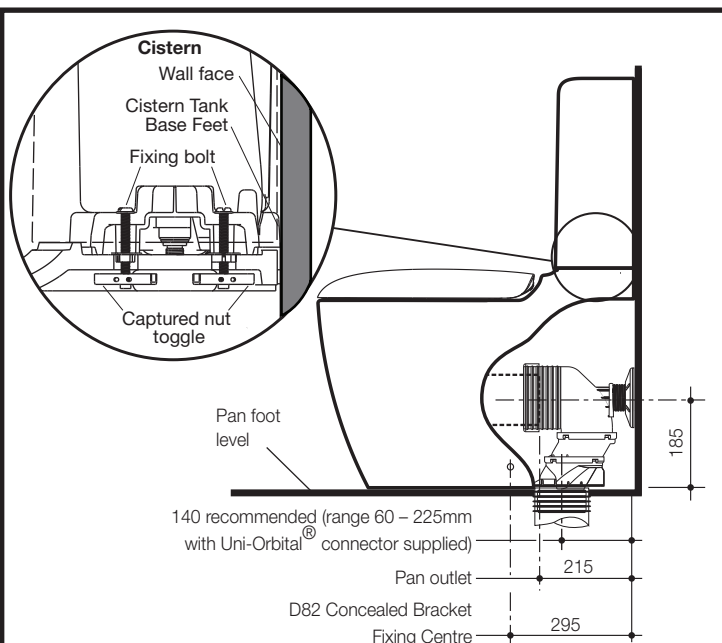

Fig. 13
- 4- Position the Cistern Tank Base Feet against the wall face as shown in Fig. 13 and check that Fixing Bolts slots are aligned with the Captured Toggle Nuts.
- 5- Insert the 4 Fixing Bolts into the slots and secure cistern to pan with Fixing Bolts as detailed in Fig. 13. Tighten the 4 screws while holding the Cistern Base Plate against the wall. Ensure cistern is level and centered on the pan. Do not overtighten.